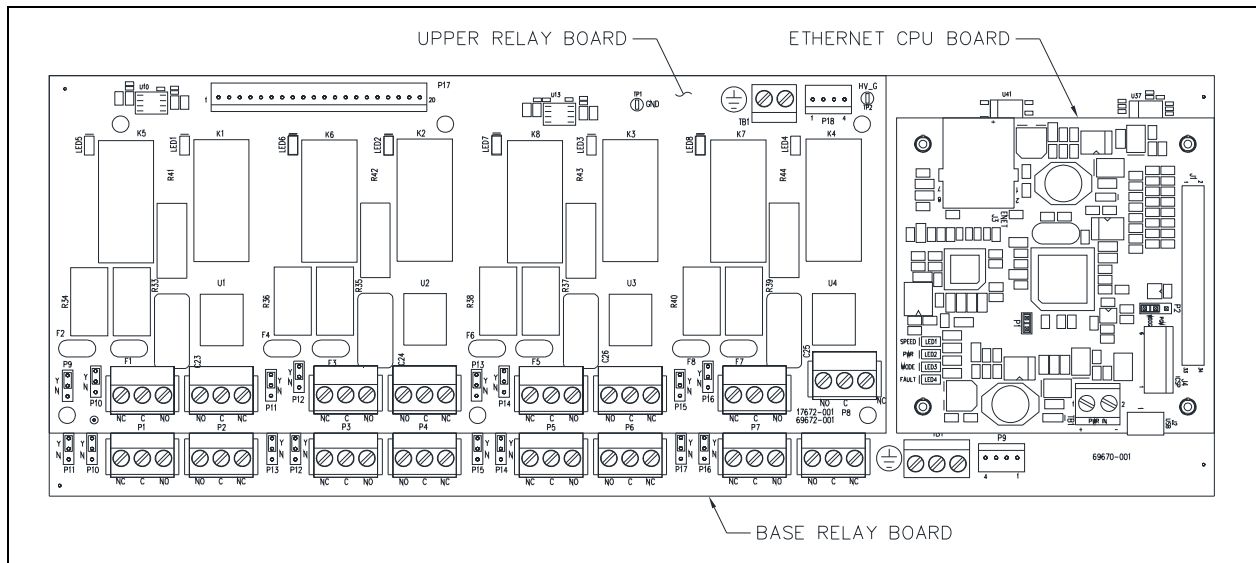

Figure 1. Model 12579-005 Strobe Monitor (IP)
The strobe monitor (IP) consists of three PCBAs; the base relay PCBA, the Ethernet IP CPU PCBA, and the upper relay PCBA (see Figure 1).